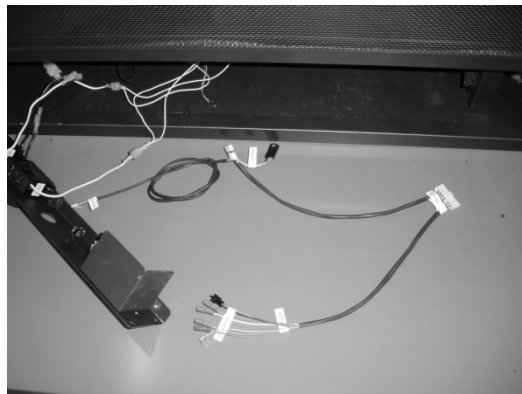

Figure 16
- 11 Place the GreenSmart wiring harness in front of the fireplace, noting the position of each connector (see .Figure 16).